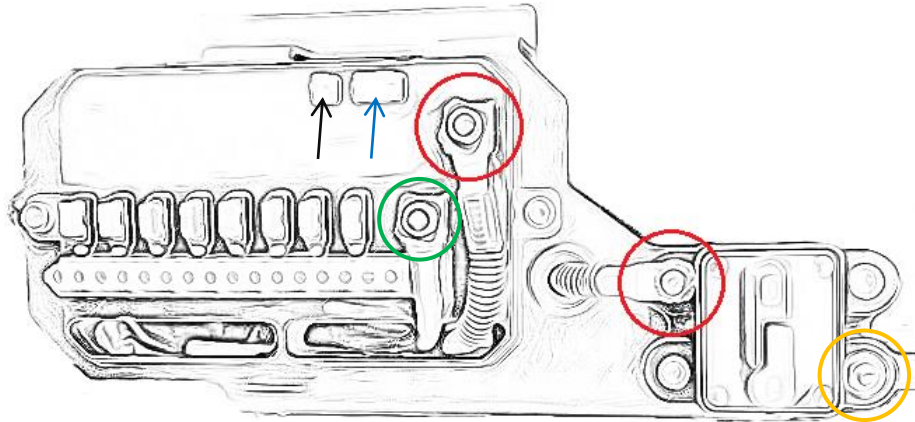

Figure 2
9. Slide the shorter red cable down through the rubber grommet in the engine bracket, and up into the Switch assembly. Attach it to the red positive terminal beside the fuses. Secure the other end to the 60A breaker terminal (Red Circles, Figure 2)
14. Connect the ACC wire to the plug in the Switch Assembly plug (Black arrow Figure 2)
20. Back in the engine bay, plug the 4-Pin Controller Harness into the Switch Assembly Port (blue arrow Figure 2). Route the cable through the opening in the engine bracket and towards the truck firewall.
24. Attach one end of the remaining 8 gauge red loomed wire to the remaining terminal of the 60A breaker (Yellow Circle, Figure 2). Attach the other end to the second positive 6mm terminal on the fuse box (Red Circle, Figure 4)
25. Attach the Black 8 gauge wire to the Auxbeam Switch Negative (Green Circle, Figure 2). Route it down through the opening and attach the other end to the terminal of the Battery Negative Connector (with the terminal still not attached to the battery).